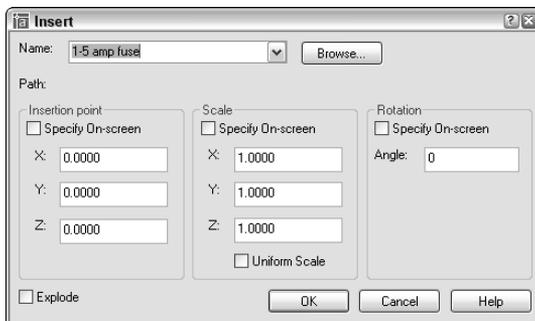

Figure 18-8: The Insert dialog box.
1.  Choose Insert Block from the Draw toolbar to start the INSERT command. The Insert dialog box (shown in Figure 18-8) opens.